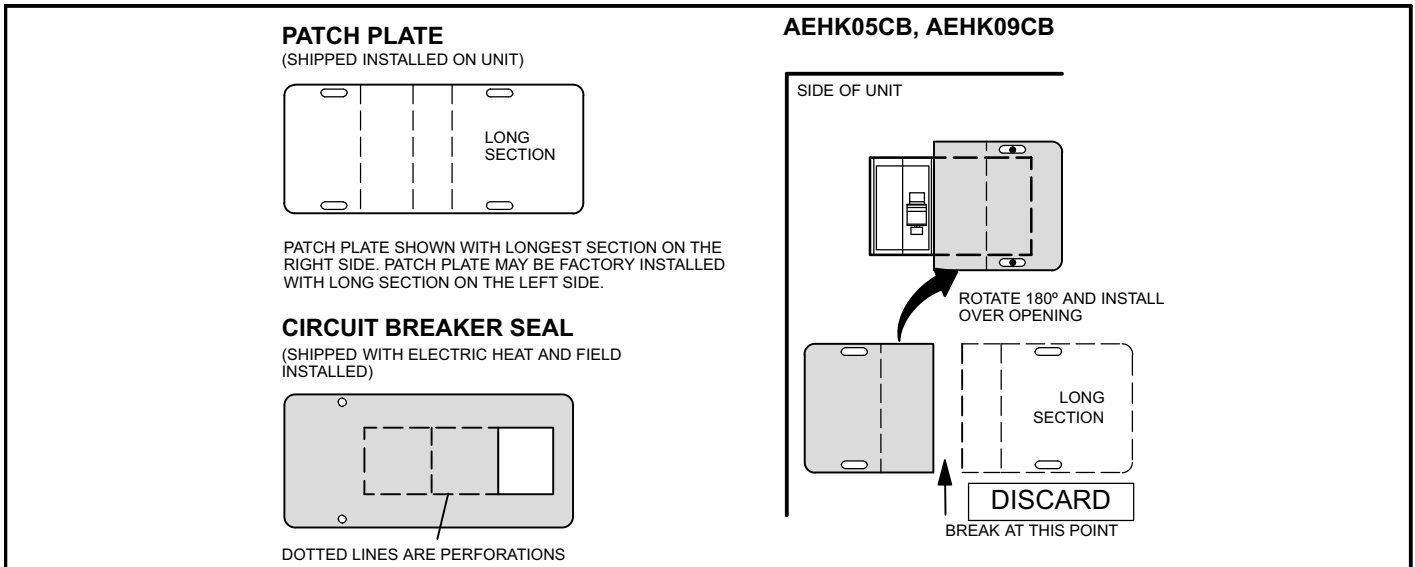
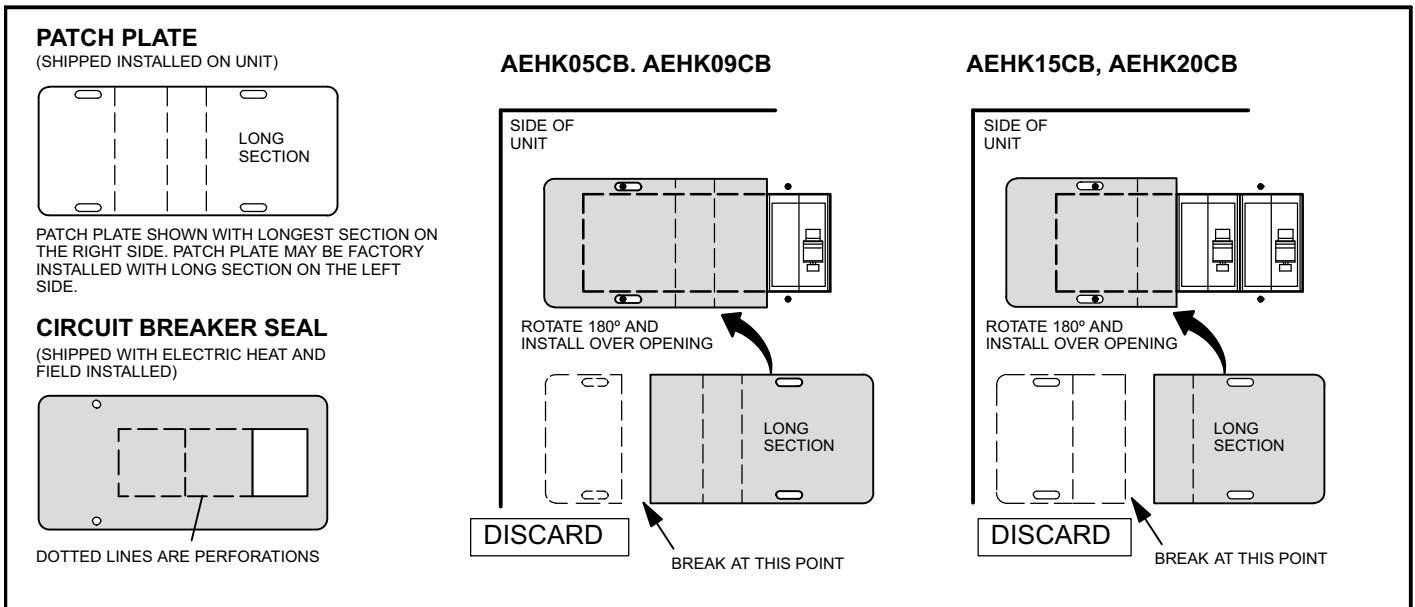

Figure 4. Circuit Breaker Heater and Patch Plate Configuration (BCE4M24)
Figure 5. Circuit Breaker Heater and Patch Plate Configuration (BCE4M30, 36, 48, 60)
5. Break the patch plate for the specific size of electric heat section that you are installing. Discard the unused piece of patch plate. See figure 4 for the **BCE4M24** units. See figure 5 for all other BCEM sizes.